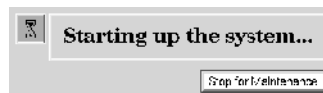

Figure 4-6 System Startup Notifier
2. When you see the System Startup *notifier* (Figure 4-6), click *Stop for Maintenance* or press **Esc**.